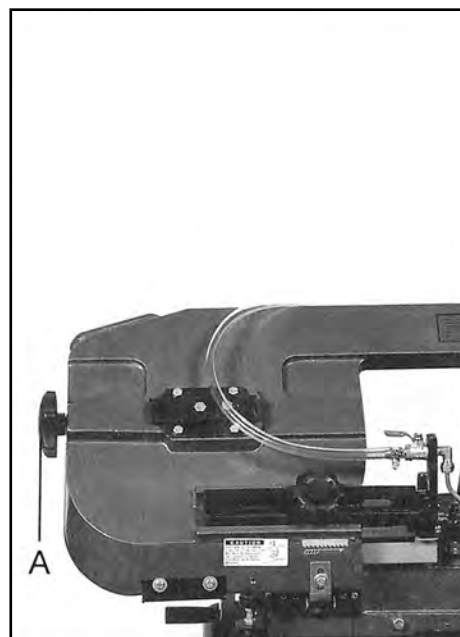

Fig. 7
3. Turn blade tension knob (A, Fig. 7) one and three quarter to two revolutions clockwise. This equals approximately 23,000 lbs. of blade tension.